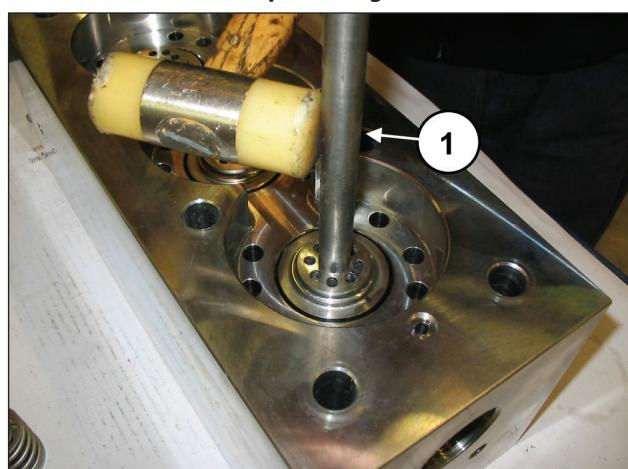

Fig. 104
**If the valve seats are blocked on the head due to the formation of scale or oxide, they must be freed by inserting the tool (code 034300020) in the outlet hole (pos. ①, Fig. 104).**